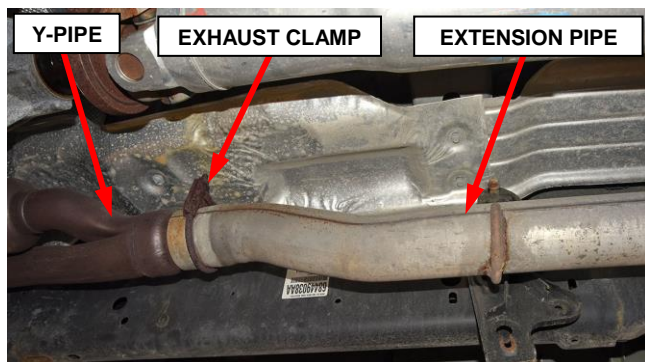

Figure 3 – Exhaust Clamp
5. Saturate the exhaust clamp for Y-pipe to muffler extension pipe with Mopar® Rust Inhibitor. Allow for penetration while removing skid plates and oxygen sensors (Figure 3).